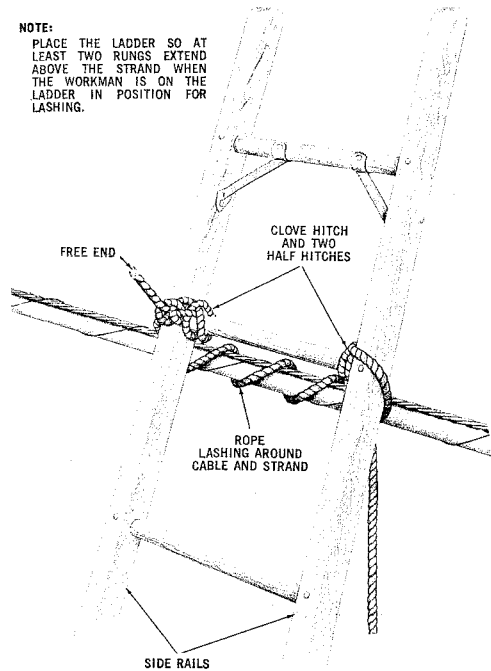

Fig. 6 — Lashing Ladder to Strand
3.20 *The craftsman should always remember, to first make himself secure on the ladder by passing his safety strap around one rung and the strand, or between two rungs, around the pole, and one side rail, so that he will not fall if he slips, loses his balance, or if something else goes wrong.* Secure the ladder with a rope as shown in Figs. 6 and 7. The manner in which the craftsman secures himself to the ladder will depend on the nature of the work to be done.
6.05 When a ladder is placed against the strand and heavy work such as pulling or lifting is to be done, lash the ladder to the strand with a short length of rope, as shown in Fig. 6. Where the cable is supported in rings, pass the lashing rope around the strand only; where the cable is lashed, pass the lashing rope around the strand and cable. *Do not move the base of the ladder after the upper end has been secured to the strand. The ladder MUST NOT be used to support the weight of the strand, cable platform and workman.*